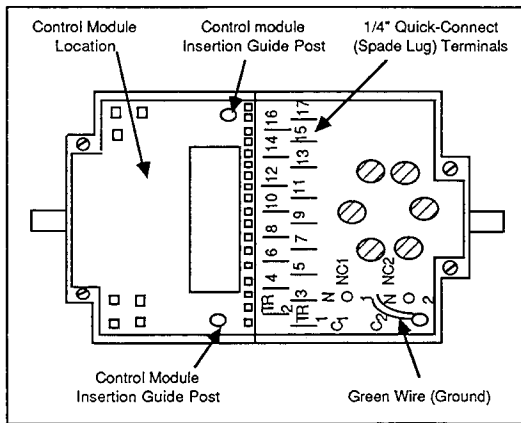

Figure 2. Terminal Board Connections and Control Module Location
2. Pick up the control module by the metal installation handle. Install the MMC-8000 control module into the motor wiring compartment by aligning the module and carefully pushing all the way onto the pins. Press in the area around both sides of the vertical part of handle (See Figures 2 and 3).